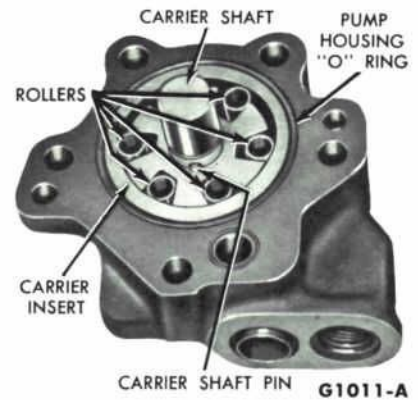
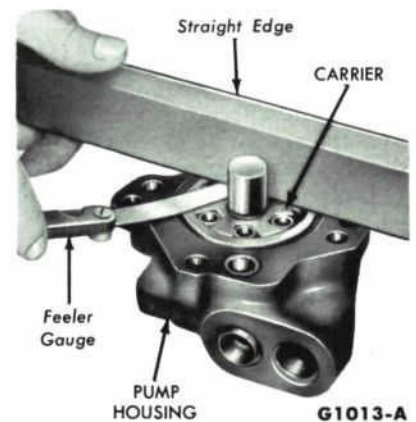

FIG. 25—Pump Housing, Carrier, and Shaft
FIG. 26—End Clearance Check
3. Remove the O-rings from the flow director and the carrier insert (Fig. 25). Using a feeler gauge and a straight-edge, check the end clearance of the carrier and the rollers in the pump housing (Fig. 26). If the clearance is not within specifications, replace the worn
4. Lift the rollers out of the housing, and carefully pull out the carrier and shaft to avoid damage to these parts or the oil seal. Remove the carrier insert only for replacement. Expand the carrier retaining ring and slip it off carefully to avoid scratching the shaft. Slide the carrier off the shaft and push the carrier shaft pin out of the carrier shaft (Fig. 25).
2. Place a new O-ring, pre-soaked in automatic transmission fluid, in the groove around the insert in the pump housing, and install a new flow director O-ring in the face of the housing (Fig. 25). Secure the cover to the pump housing.